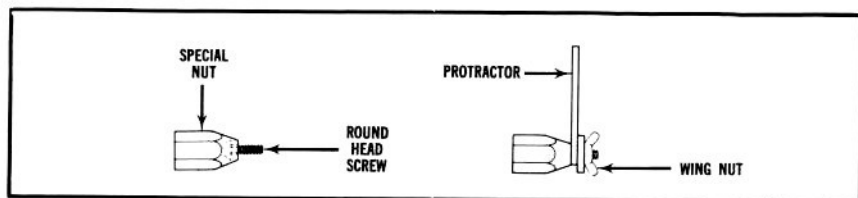

FIGURE 10
3. Install the round head screw in the special extension nut and jam the screw tight (Figure 10). Assemble the protractor on the nut and screw and secure with the 10-24 wing nut.